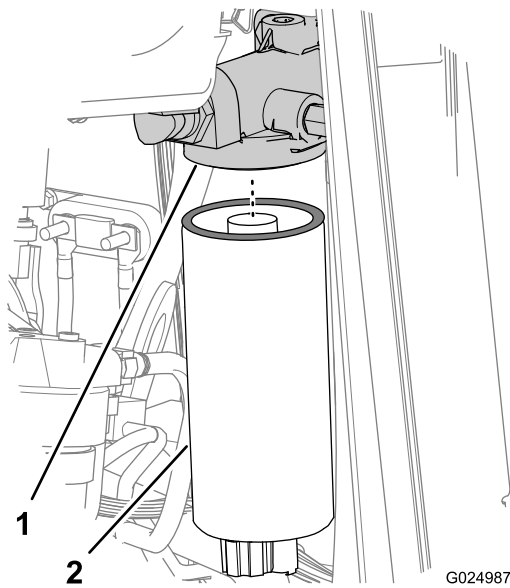
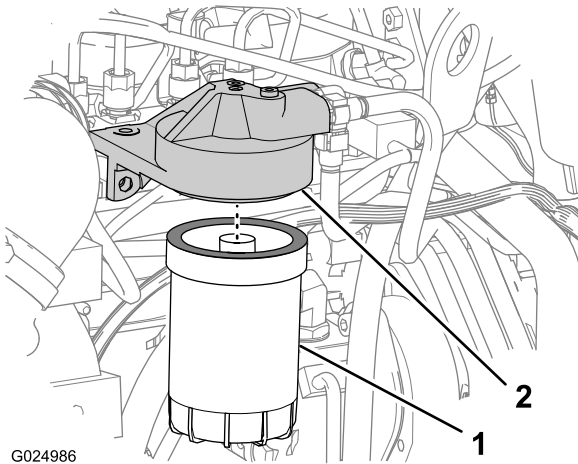

Figure 79
Figure 80
7. Loosen and remove the primary fuel filter (Figure 79).
9. Loosen and remove the secondary fuel filter (Figure 80).
1. Wipe clean the sealing surfaces of the filter adapters for the primary- and secondary-fuel filters (Figure 79 and Figure 80).
3. Install the primary-fuel filter onto the filter adapter, and tighten the filter until the gasket contacts the filter head surface (Figure 79).
6. Install the secondary-fuel filter onto the filter adapter, and tighten the filter until the gasket contacts the filter head surface (Figure 80).